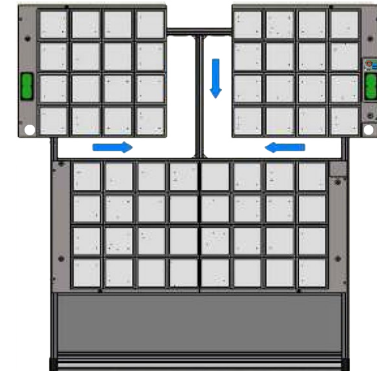

fig. 3.2-14
I. Setting up the basic modules: (fig. 3.2-14)